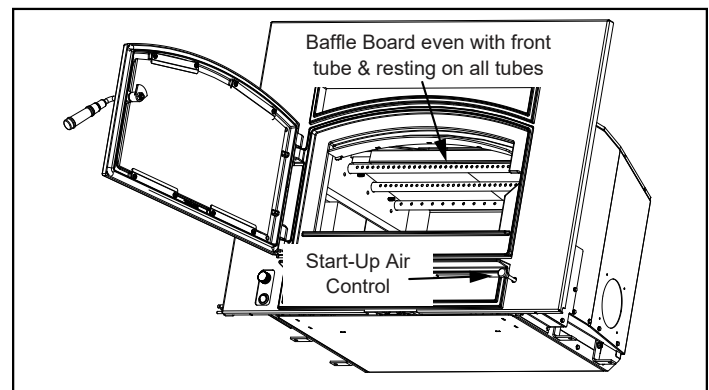
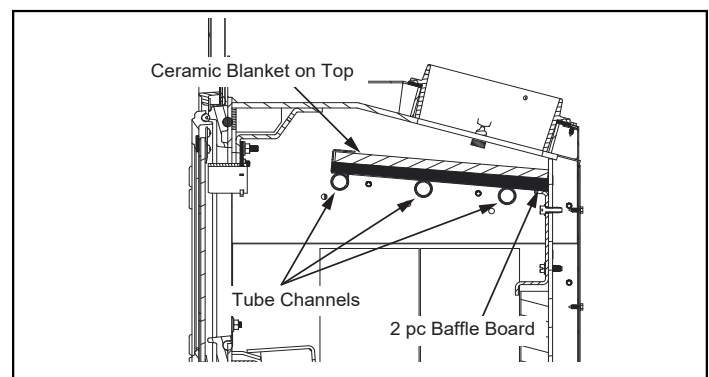

Figure 13.1
Figure 13.2
1. Confirm the baffle and ceramic blanket are correctly positioned. They should be touching back of firebox and secured into Baffle Protection Channel (**Figure 13.1 and Figure 13.2**).